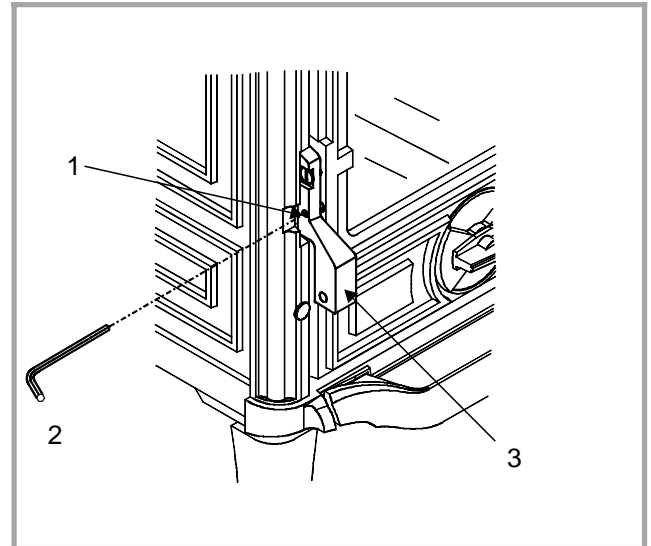

Figure 9 - Door lock
- Open the stove door by removing the safety screw (rep. 1, fig. 9).